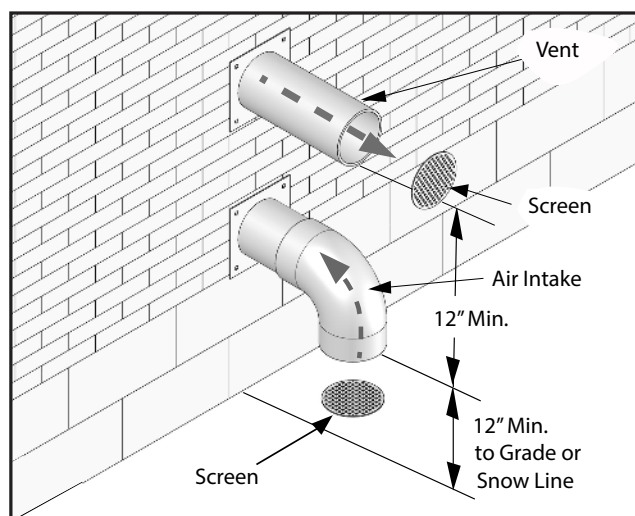
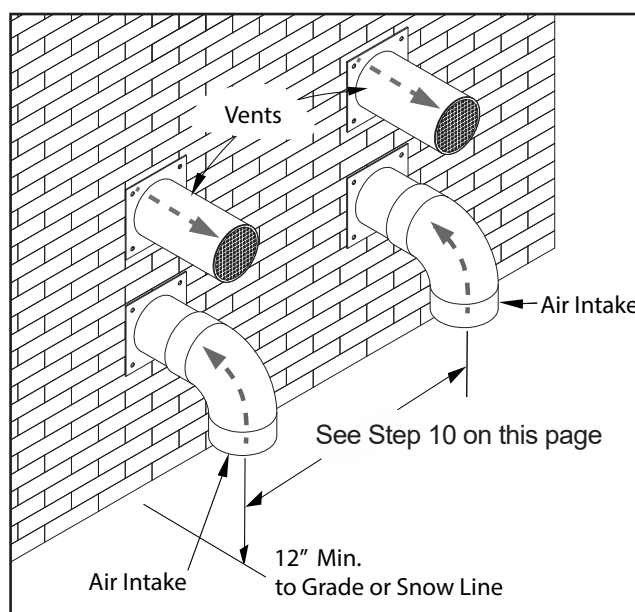

Figure 10. Side Wall Termination
Figure 11. Multiple Side Wall Terminations
1. The vent must terminate in either a straight coupling, elbow, or an approved vent termination listed in this manual. No matter what terminal is used, the vent termination must face outward away from the wall as shown in Figure 10. The vent termination must not face downward, or flue gas recirculation could occur. When ducted combustion air is used, the air intake must terminate in a down-turned elbow.
3. If located on the same wall, the vent must terminate at least 12 inches (30 cm) above the air intake. See Figure 10 and in Figure 11
10. The minimum horizontal separation between the outlet group and inlet group of multiple terminations is 36 inches (91 cm) for models 399 - 999 and 84 inches (213 cm) for model 1500. However, greater separation distances may be necessary to prevent flue gas recirculation depending on site conditions. To minimize the possibility of flue gas recirculation, separate terminals as much as allowable. (See Figure 11).